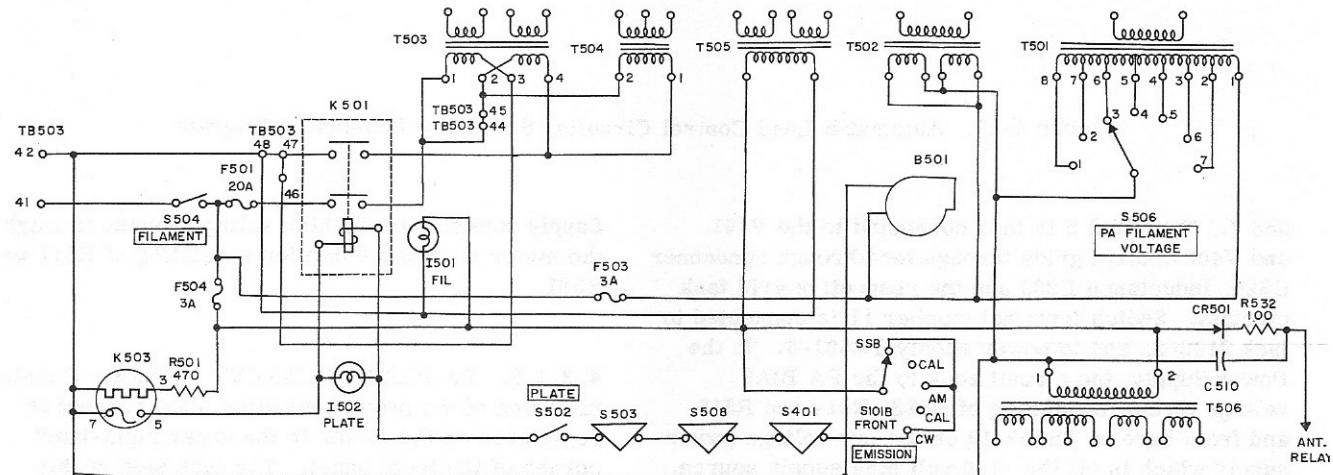

Figure 4-18. Primary Circuits, Simplified Schematic Diagram
4.2.2.1. GENERAL. The Power Supply of the KWS-1 Transmitter is designed for either a 230-volt or 115-volt a-c input. The schematic diagram in figure 7-2 shows alternate connections for either input value, whichever is available at the installation. Power supply primary circuits are shown in the simplified schematic diagram of figure 4-18.